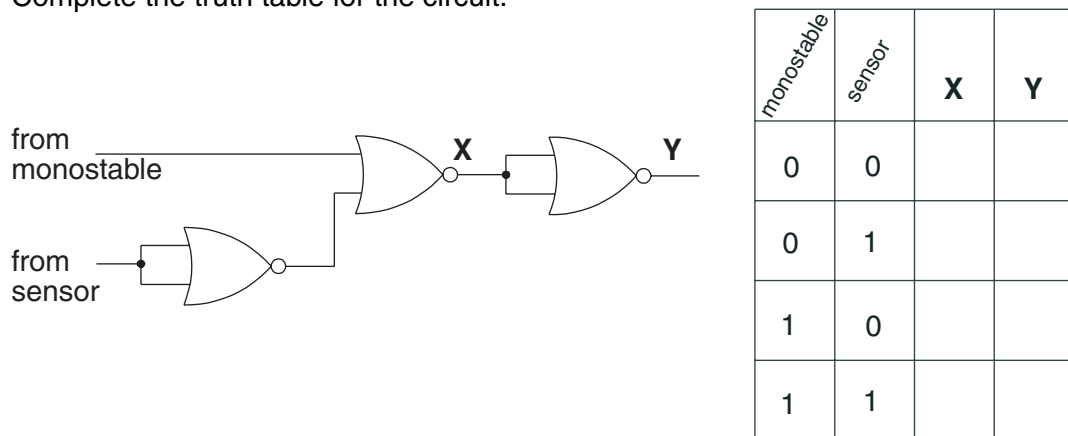

Fig. 10
- (b) (i) The logic circuit to control the fan / heater is shown in Fig. 10. Complete the truth table for the circuit.